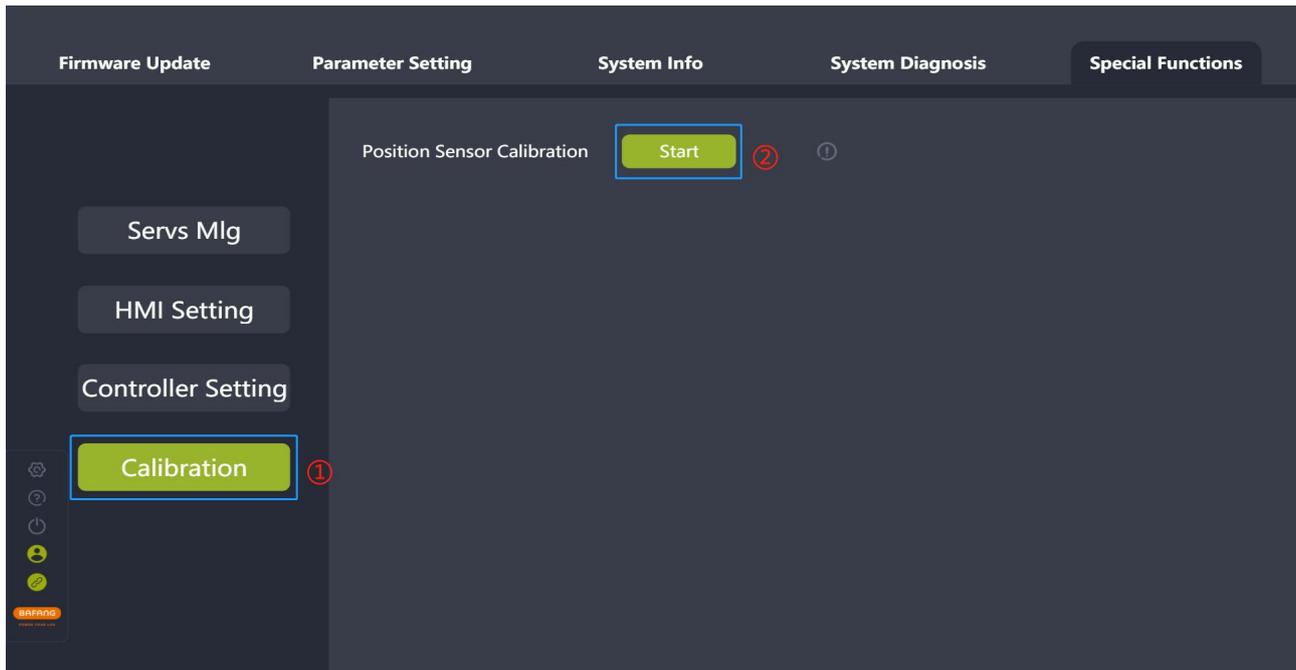

Fig. 8-8 Position sensor calibration
- (1) Connect the BESST Tool to the controller and select "Calibration".
- (2) Click "Start" next to the tag "Position Sensor Calibration" to start the calibration (Fig.8-8).